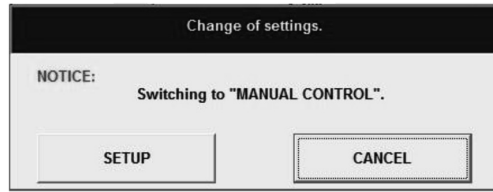

Fig.38
④ Clicking on "SETUP" brings up a message box as shown in Fig. 38.